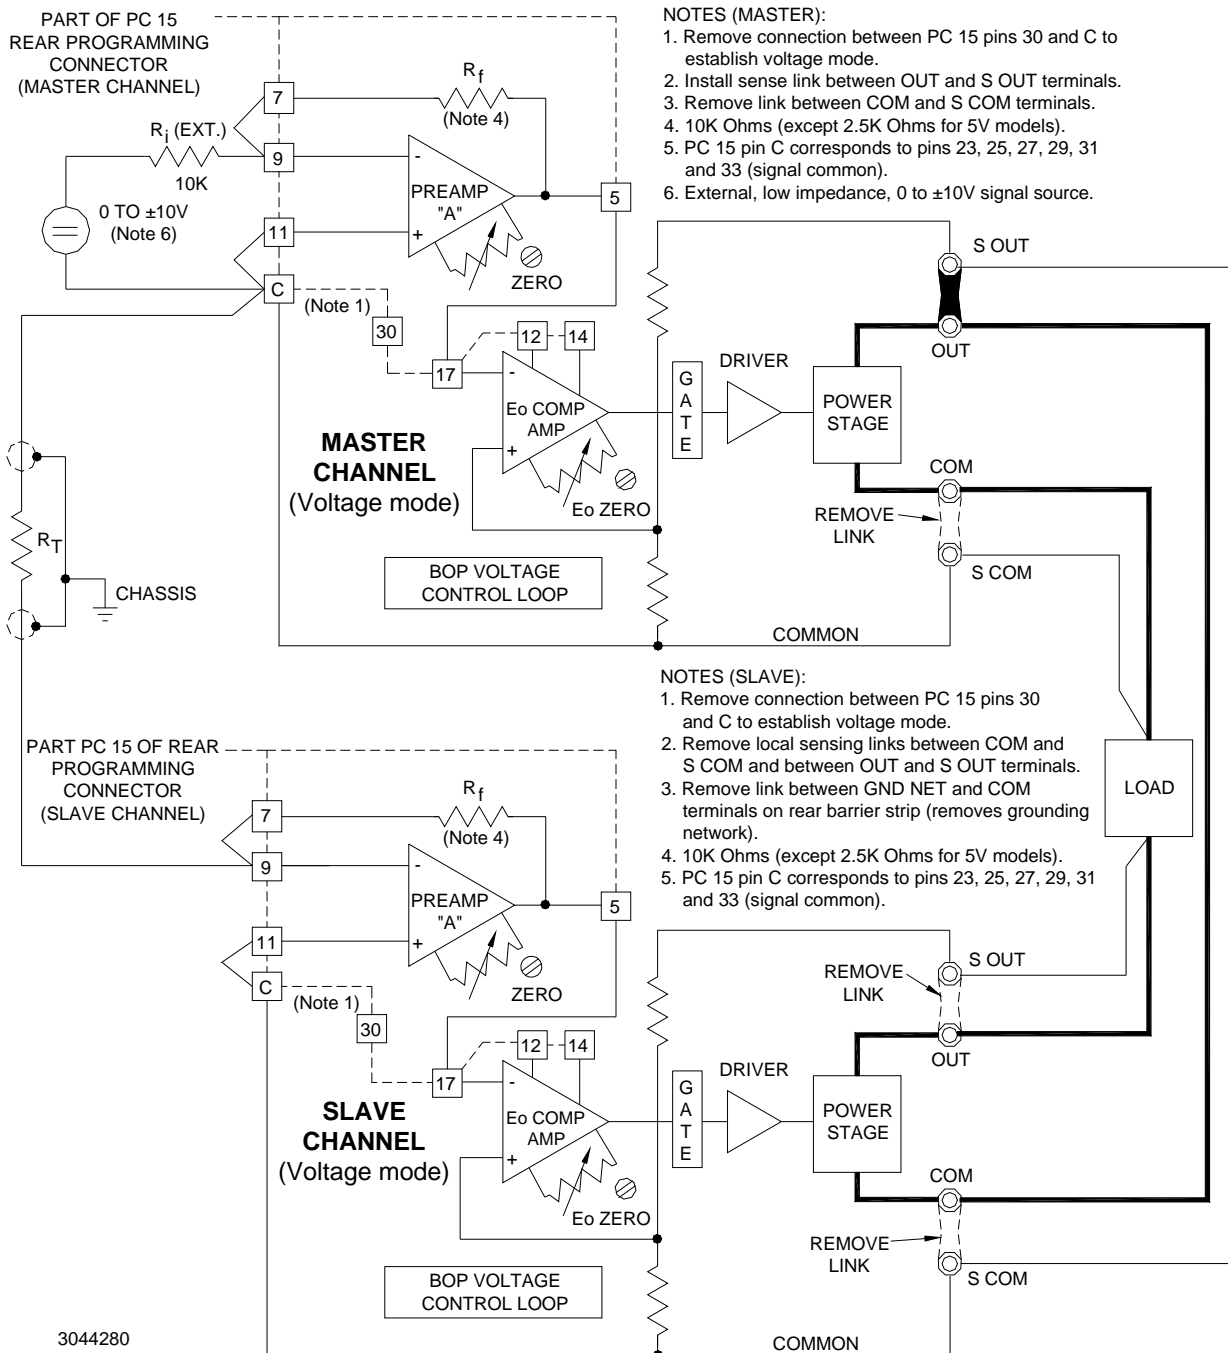

FIGURE 3-23. SERIES CONNECTION, MASTER/SLAVE, VOLTAGE CONTROL OF TWO BOP CHANNELS WITH REMOTE ERROR SENSING AT THE COMMON LOAD
Two BOP channels can be connected in series to increase the unit's output voltage. The Slave channel is set to always be in voltage mode, adding to the output voltage of the Master channel by repeating the Master's voltage, while the Master can operate in either voltage mode or current mode as needed. Figure 3-23 shows a Master/Slave connection of the two BOP channels of a BOP 2X Dual Channel unit.
1. Connect the BOP channels as shown in Figure 3-23.
2. Turn BOP channels on and begin operation. The system as shown in Figure 3-23 operates in Voltage Mode, since the Master Channel is set to voltage mode (no connection between PC 15 pins 30 and C (common)). For operation in Current Mode, set the Master to Current mode by installing a connection between PC 15 pins 30 and C (common).